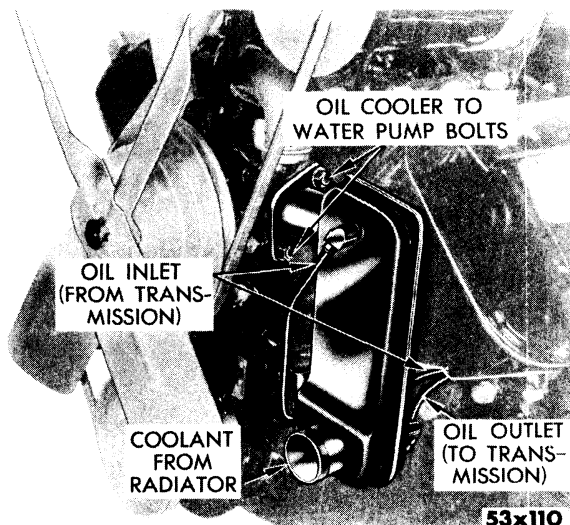

Fig. 49—Transmission Oil Cooler Installed (Typical View)
- (1) Place valve into position in valve body.
- (2) Install torque converter control valve spring, gasket, and retainer and tighten to 40 foot-pounds torque.
46. OIL COOLER (REFER TO FIG. 49)